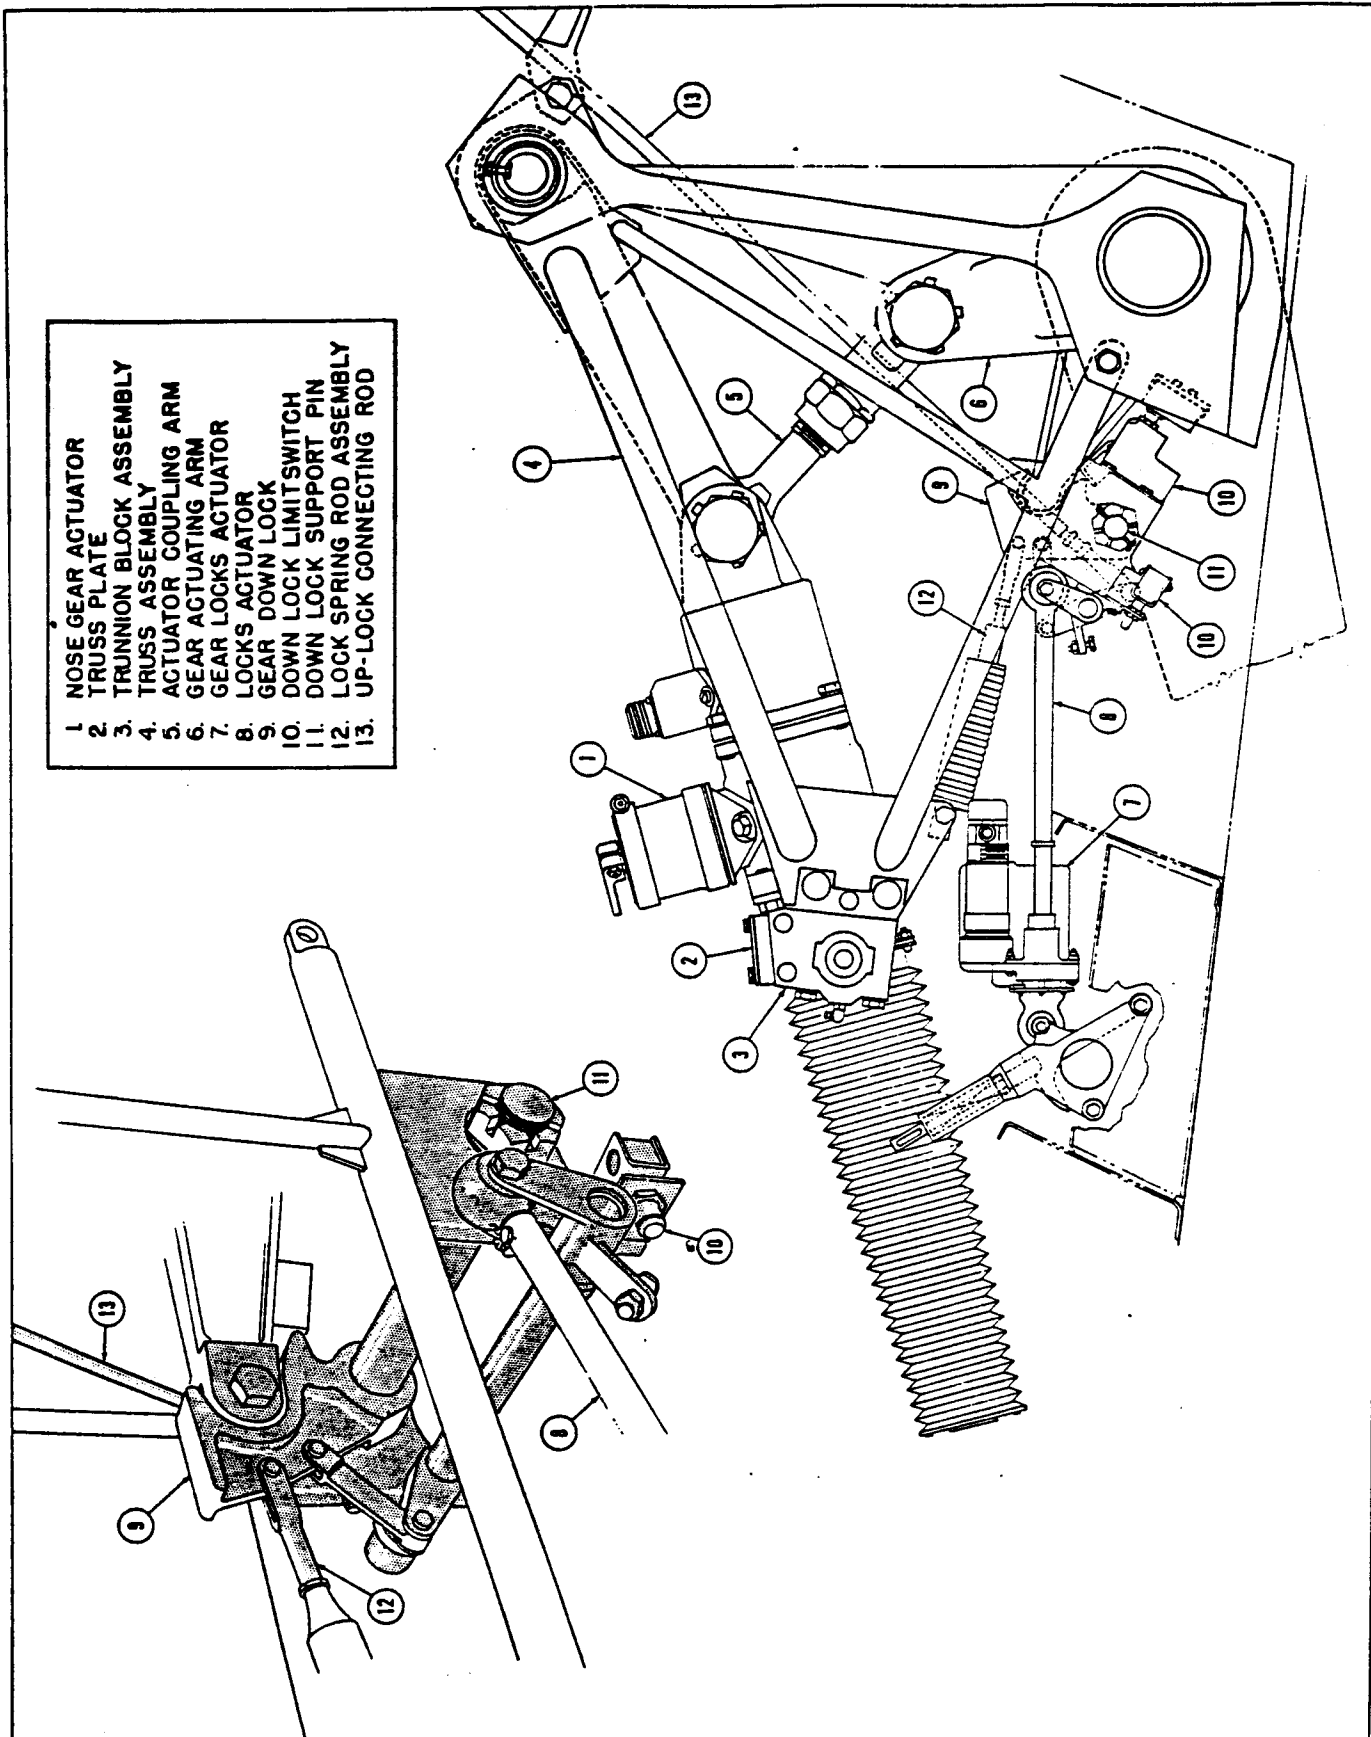

Figure 21. Nose Gear Actuator, Down-Lock and Locks Actuator
(5) NOSE-GEAR DOWN-LOCK. (See figure 21.)
(6) NOSE-GEAR LOCKS ACTUATOR (See figure 21.)
(a) ACTUATOR. (See figure 21.)